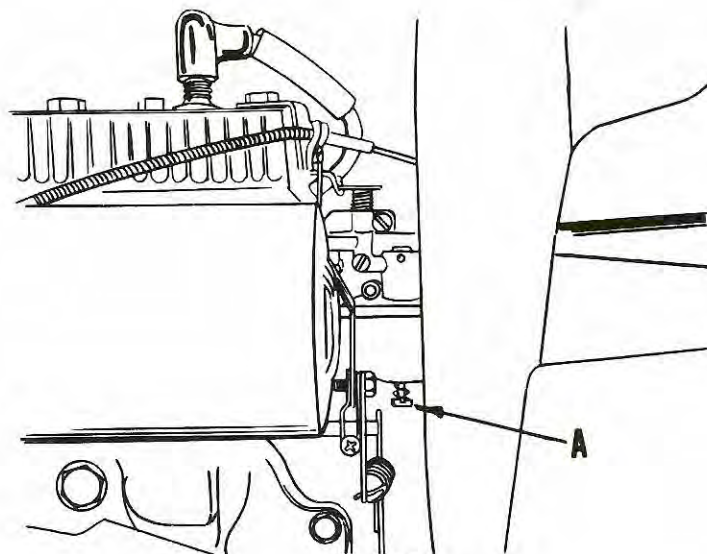

FIG. 30
2. Drain carburetor by allowing engine to run out of gasoline. Then push in drain valve (A, Fig. 30), to remove all gasoline from carburetor. Evaporating gasoline will leave gum deposits if not drained completely. These deposits make fuel systems inoperative resulting in a hard or nonstarting engine when again used.